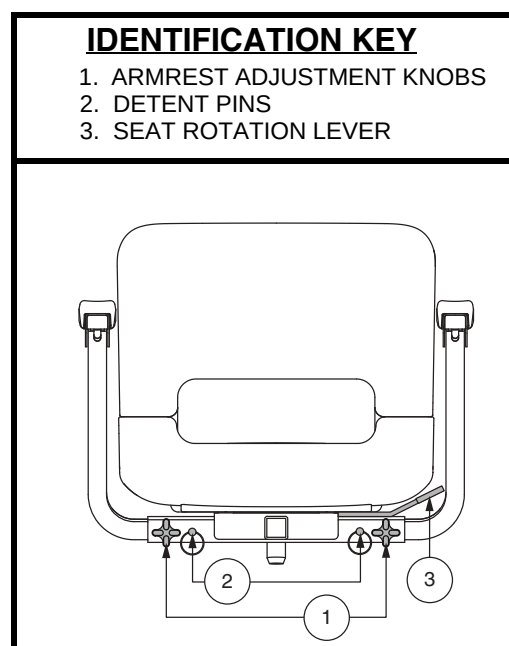

Figure 15. Seat Adjustments – Style A
1. Loosen the armrest adjustment knobs. See figure 15.
1. Depending on your seat type, either pull upward or push forward on the seat rotation lever to disengage the seat. **See figure 15 or 16.**